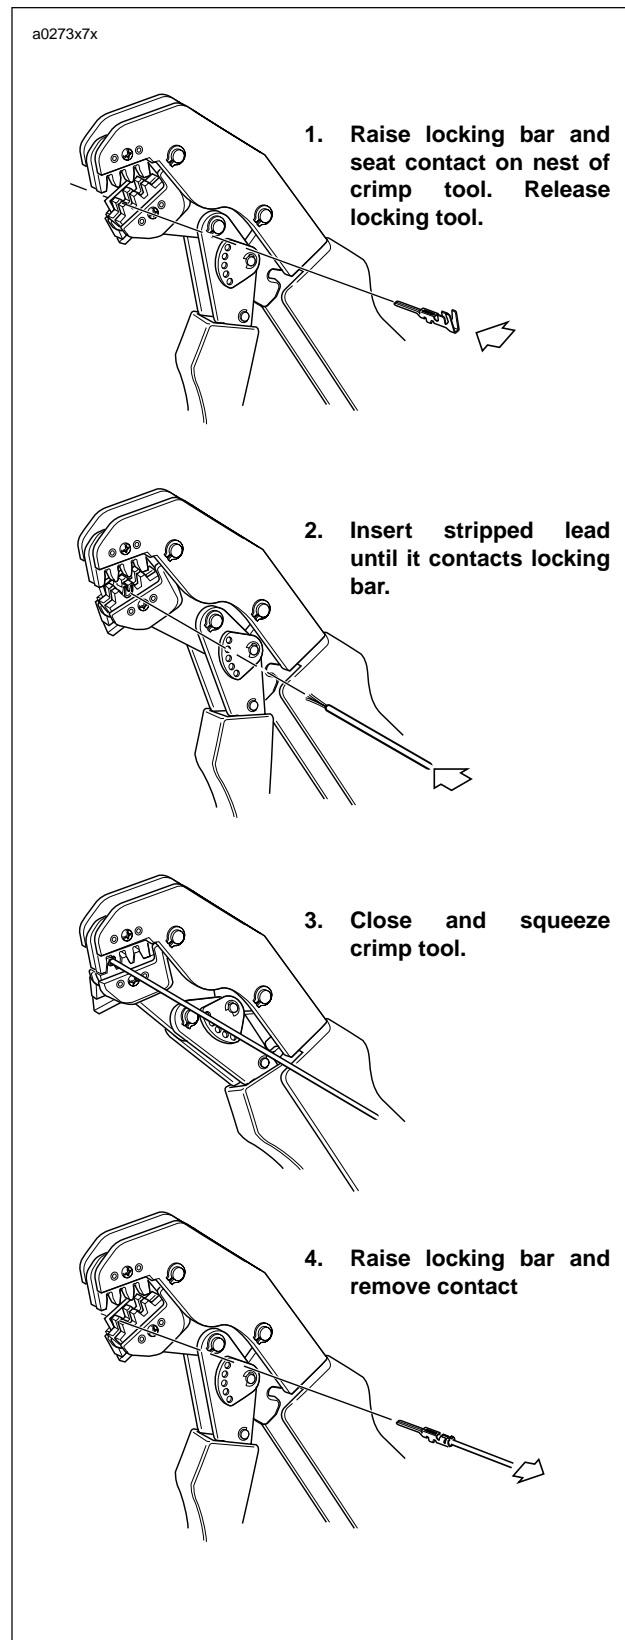

Figure B-9. Amp Multilock Crimping Procedure
1. See Figure B-9. Squeeze the handles to cycle the AMP TERMINAL CRIMP TOOL (Part No. HD-41609) to the fully open position.